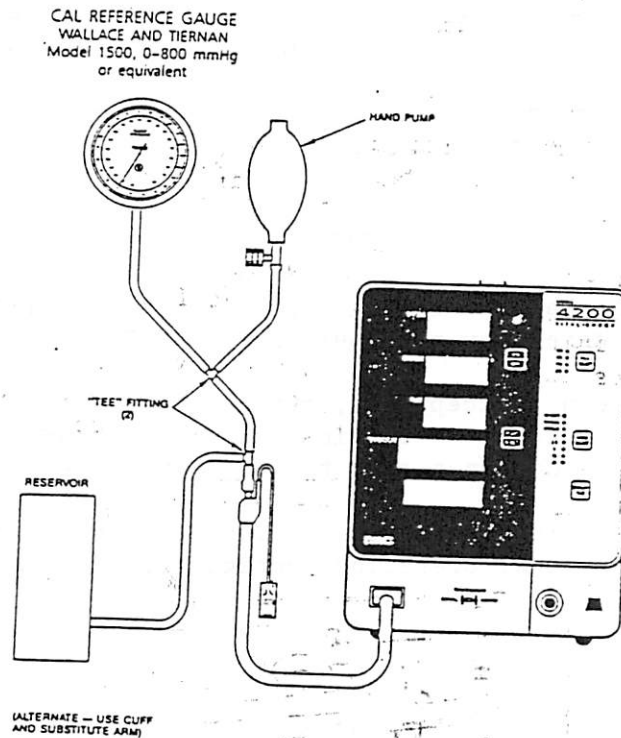

Figure 2. Pressure Calibration Test Fixture
- b. Install pressure gauge and pressure source at the cuff nipple using a tee fitting and other fittings (see figure 2), as required.